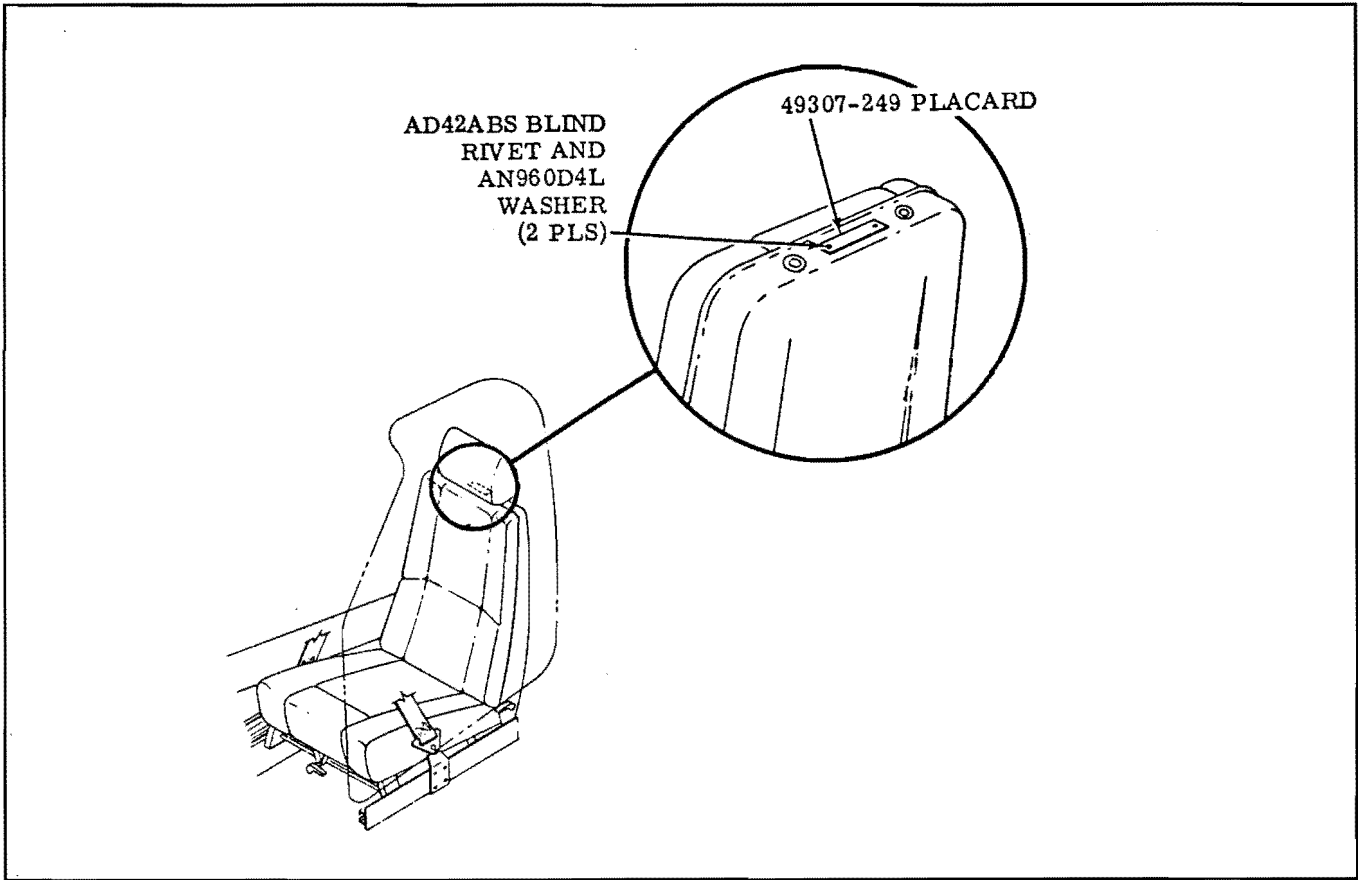

Figure 1.
2. Locate, drill and install 49307-249 placard on pilot and front passenger seatbacks with AD42ABS blind rivet (2 places) and AN960D4L washer (2 places) (see Figure 1.).